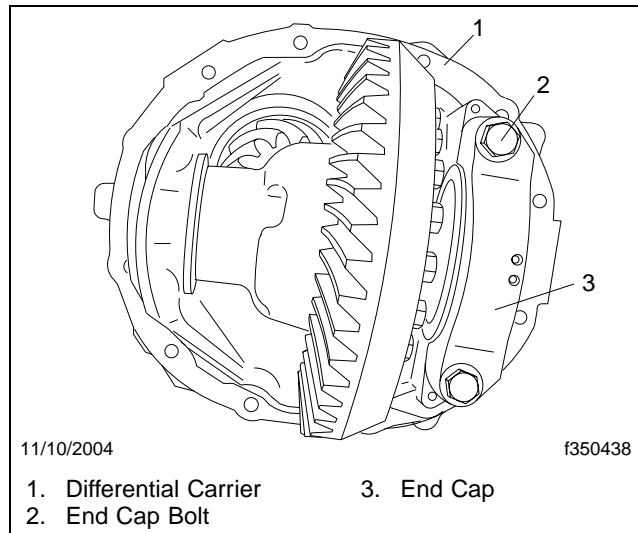

Fig. 5, Carrier End Caps
7. Slide the end caps at the sides of the differential carrier into the corresponding slots in the axle housing. See **Fig. 5** (page 12).